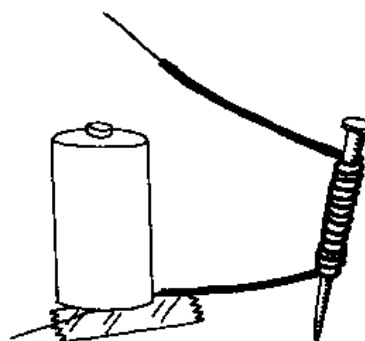

Figure 1
- Use a piece of tape to hold the stripped ends of the wire against the two terminals of the battery, as shown in figures 1 and 2.